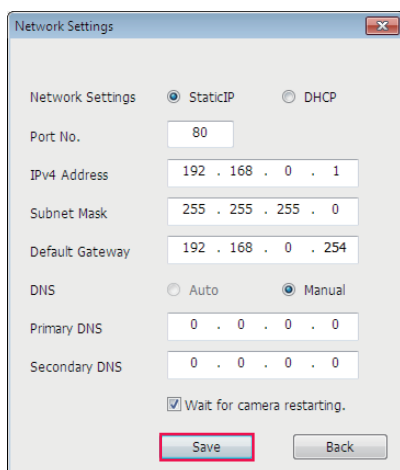

Fig. 3
**4** Enter each of the network setting items, and then click [Save]. (Fig. 3)